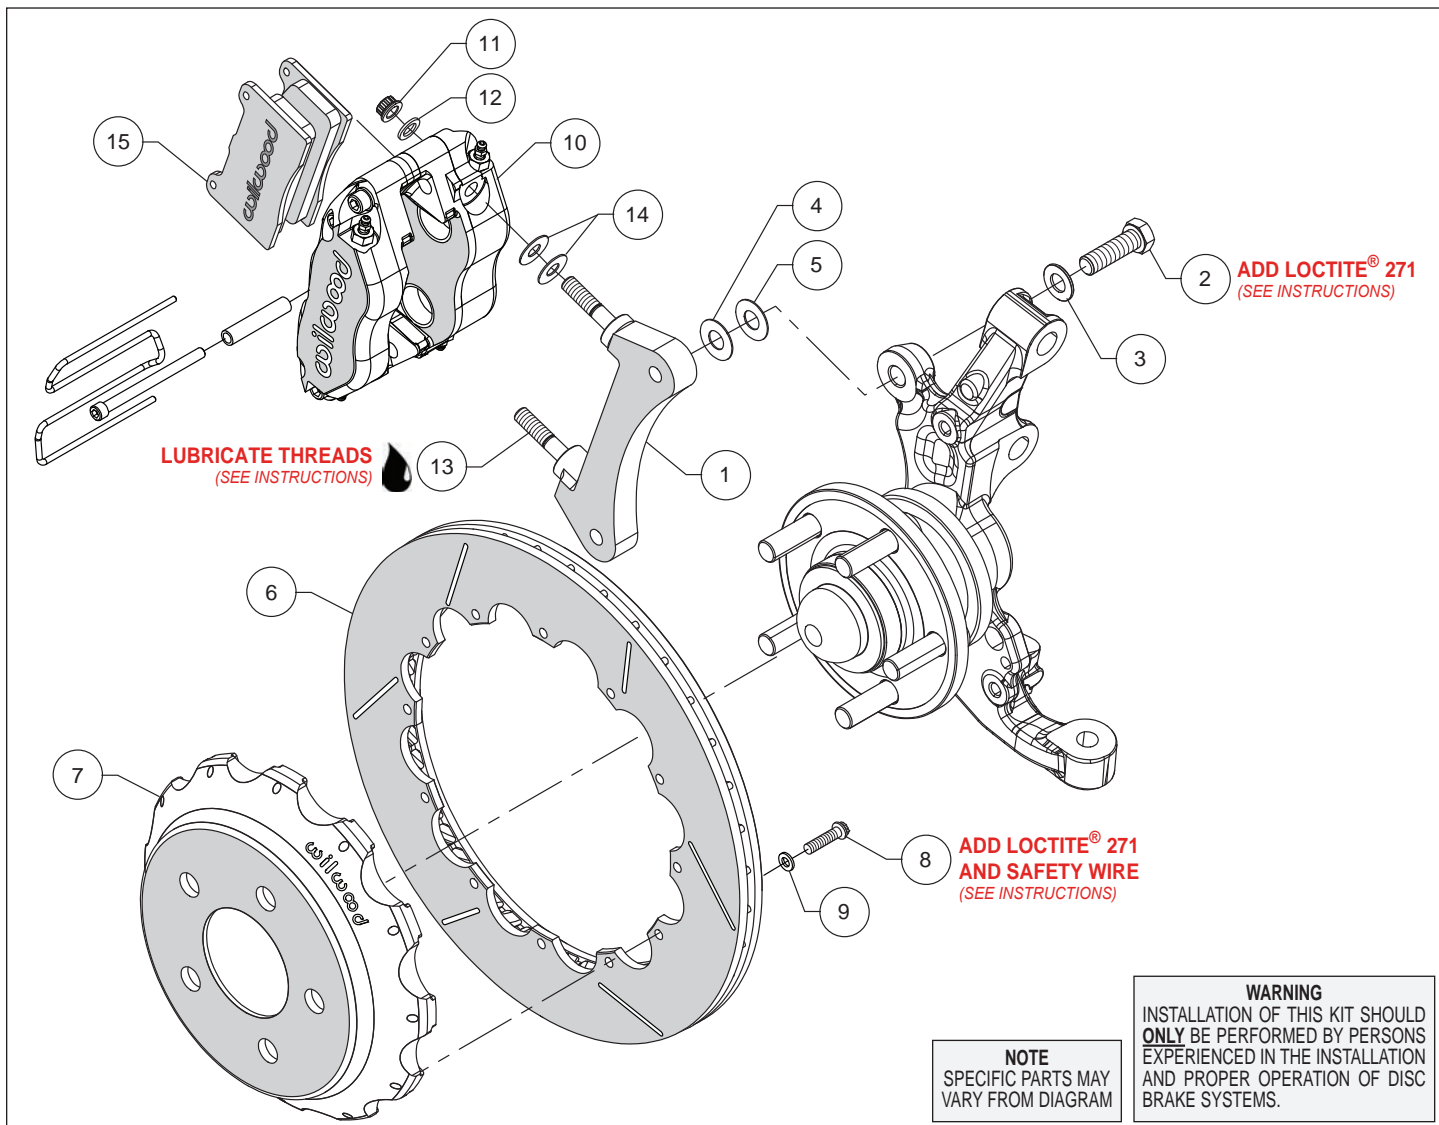
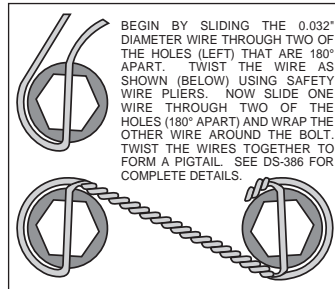

Figure 1. Typical Installation Configuration
Figure 3. Safety Wire Diagram
**Assembly Instructions** (numbers in parenthesis refer to the parts list and Figure 1 on the preceding pages):
- The caliper mount bracket (1) should initially be installed with clean, dry threads on the mounting bolts. Orient the bracket, as shown in Figure 1 and Photo 1, and install using bolts (2) and washers (3). Initially place one .033" thick shim (4) on each bolt between the bracket and upright, Figure 1. Temporarily tighten the mounting bolts. **NOTE: The bracket must fit squarely against the mount bosses on the upright.** Inspect for interference from casting irregularities, machining ridges, burrs, etc. Later, after the caliper alignment has been checked, the mount bolts will be secured using red *Loctite*® 271.
- Orient the rotor (6) and the hat (7) as shown in Figure 1 and Photo 2. Attach rotor to hat using bolts (8) and washers (9). Using an alternating sequence, apply red *Loctite*® 271 to the threads, and torque to 155 in-lbs. Safety wire the bolts using standard 0.032 inch diameter stainless steel safety wire as shown in Figure 3. Refer to Wilwood's data sheet DS-386 (available at [www.wilwood.com/Pdf/DataSheets/ds386.pdf](http://www.wilwood.com/Pdf/DataSheets/ds386.pdf)) for complete safety wire installation instructions.
- Lubricate the caliper mounting studs (13) with lightweight oil. Initially place two .035" thick shims (14) on each stud as shown in Figure 1 and Photo 4. Mount the caliper (10) onto the bracket (1) using lock nuts (11) and washers (12), Figure 1. Temporarily tighten the lock nuts and view the rotor through the top opening of the caliper. The rotor should be centered in the caliper, Photo 5. If not, adjust by adding or subtracting shims (4 and/or 5) between the bracket and the mounting bosses. Once the caliper alignment is correct, remove the bracket mounting bolts one at a time, apply red *Loctite*® 271 to the threads, and torque to 60 ft-lbs.
- Insert the brake pads (15) into the caliper with the friction material facing the rotor (6), as shown in Figure 1 and Photo 6. Check that the top of the brake pad is flush with the outside diameter of the rotor, Photo 7. If not, adjust by adding or subtracting shims (14) between the caliper and the bracket. After the caliper pad height is set, torque the caliper lock nuts (11) to 30 ft-lb. Secure the pads in place using the pad clip retainer as well as the center bridge pad retainer tube, bolt, and locknut, Photo 8. The locknut should be snug without play in the bolt or tube. Be cautious not to over tighten.